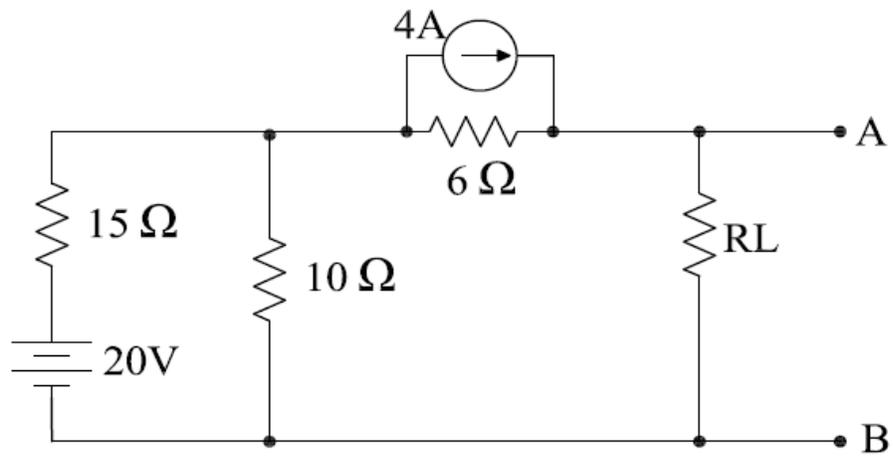

Fig.4
3. Find the voltage between the open terminals A and B for the network shown in Fig.4 using Norton theorem. And the value of R_L is one half the value of R_N , find the current through R_L